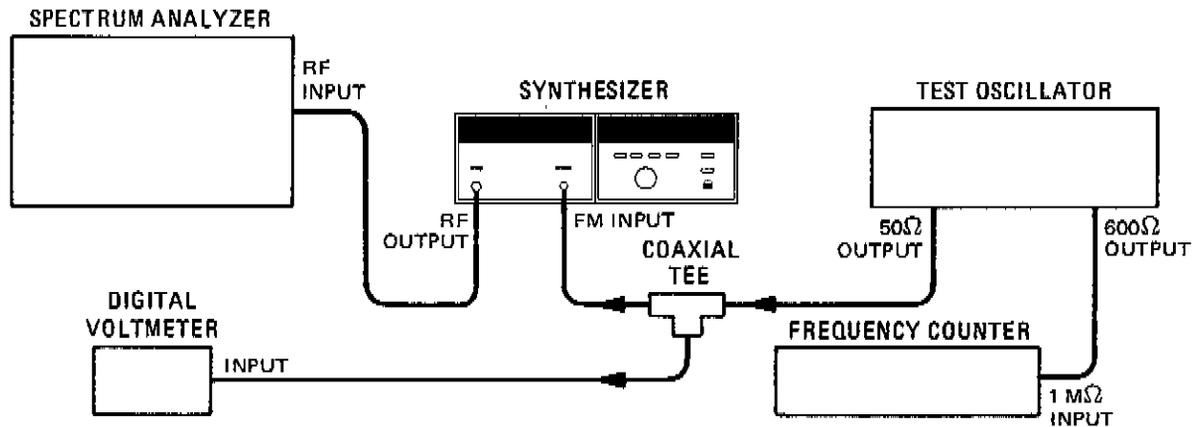

Figure 4-3. FM Accuracy Test Setup
1. Connect the equipment as shown in Figure 4-3.